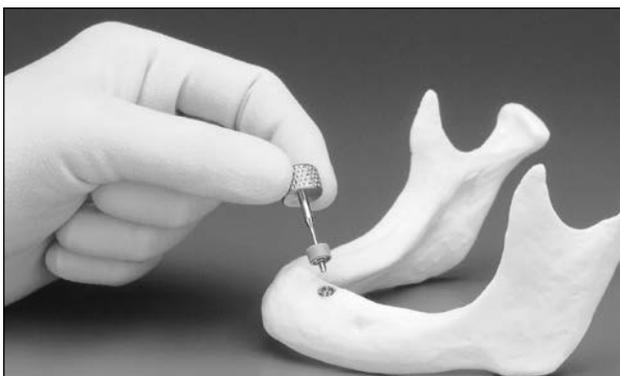

Figure 18.
F. Flush the implant to remove debris before seating the healing screw onto the implant body and tighten with the 0.9 mmD (0.035") Hex Tool (Fig. 18). After tightening is completed, withdraw the Hex Drive Seating Tool from the oral cavity and remove the rubber boot. The rubber boot is a disposable product.